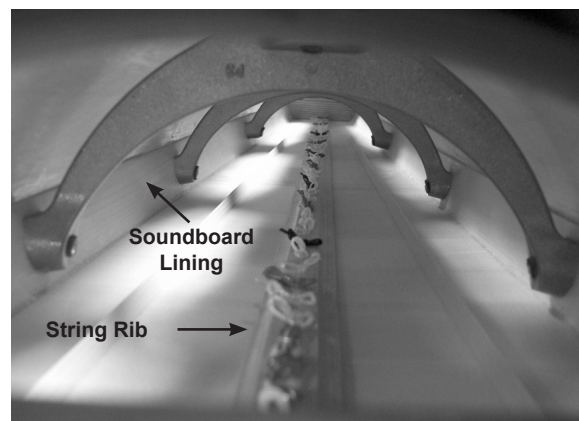

Figure 2 – String Rib & Soundboard Lining
2. To ensure that the pickup elements and harness clips will adhere well, use a slightly damp cloth to wipe any dust or debris off of the inside of the soundboard and the soundboard lining along the left side of the soundboard (*see figure 2*). **This step is absolutely necessary.** Clean any surfaces where you will be attaching the clips and pickup elements. If you don't, the adhesives will not stick and pickup elements and/or harness clips may come loose. Don't assume that it is clean even if you can't see any dust. Dry to remove any trace of moisture.
3. Place the template on the back of the soundboard with the edge against the left side of the string rib (*see figure 2*).